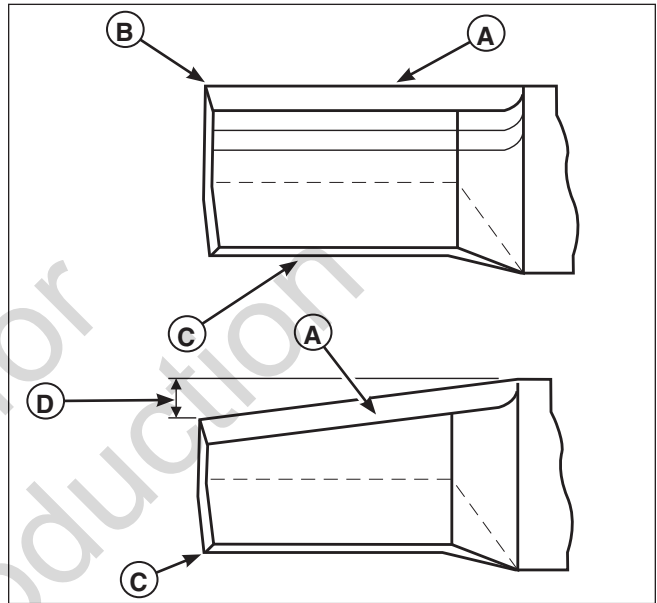

Figure 9. Inspecting the Mower Blade Tips
1. Inspect the mower blade (Figures 9 & 10). Discard a mower blade with any of these conditions:
- 1.) Has more than .5" (12,7 mm) of the mower blade metal removed from previous sharpening or wear (D, Figure 9).